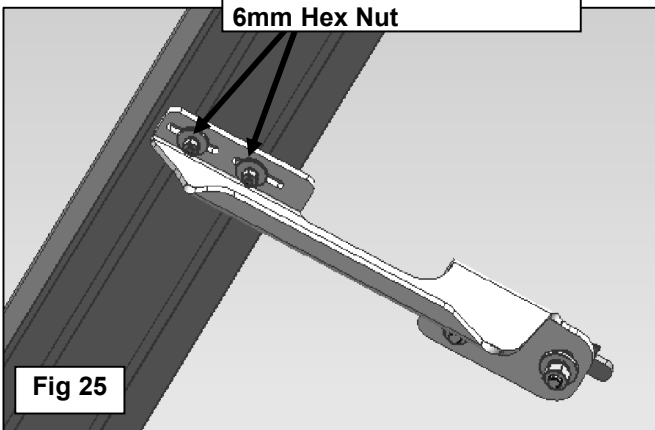

Fig 25
9. Carefully unwrap the Running Board. Slide the T-Bolts forward or back to line up with the slots in the Brackets, (**Figure 23**). Hold the Running Board up in approximate position and slide the T-Bolts down to line up with the Mounting Brackets. Tilt the Board up at a slight angle and push back against the vehicle until the T-Bolts fit into the slots on the Brackets. **VERY IMPORTANT**: The front Bracket is very close to the slots in the front-end of the Board for the T-Bolts. Loosen the Front Bracket and push it toward the rear of vehicle so that the Bracket is at a slight angle to clear the slots for the T-Bolts, (**Figure 24**). Secure the Board to the Brackets with (6) 6mm Flat Washers, (6) 6mm Lock Washers and (6) 6mm Hex Nuts, (**Figure 25**). Do not tighten hardware at this time. **NOTE**, the Running Board is designed to fit close to the vehicle. It may be necessary to loosen the Bracket hardware and tilt the Brackets downward to insert the Running Board.